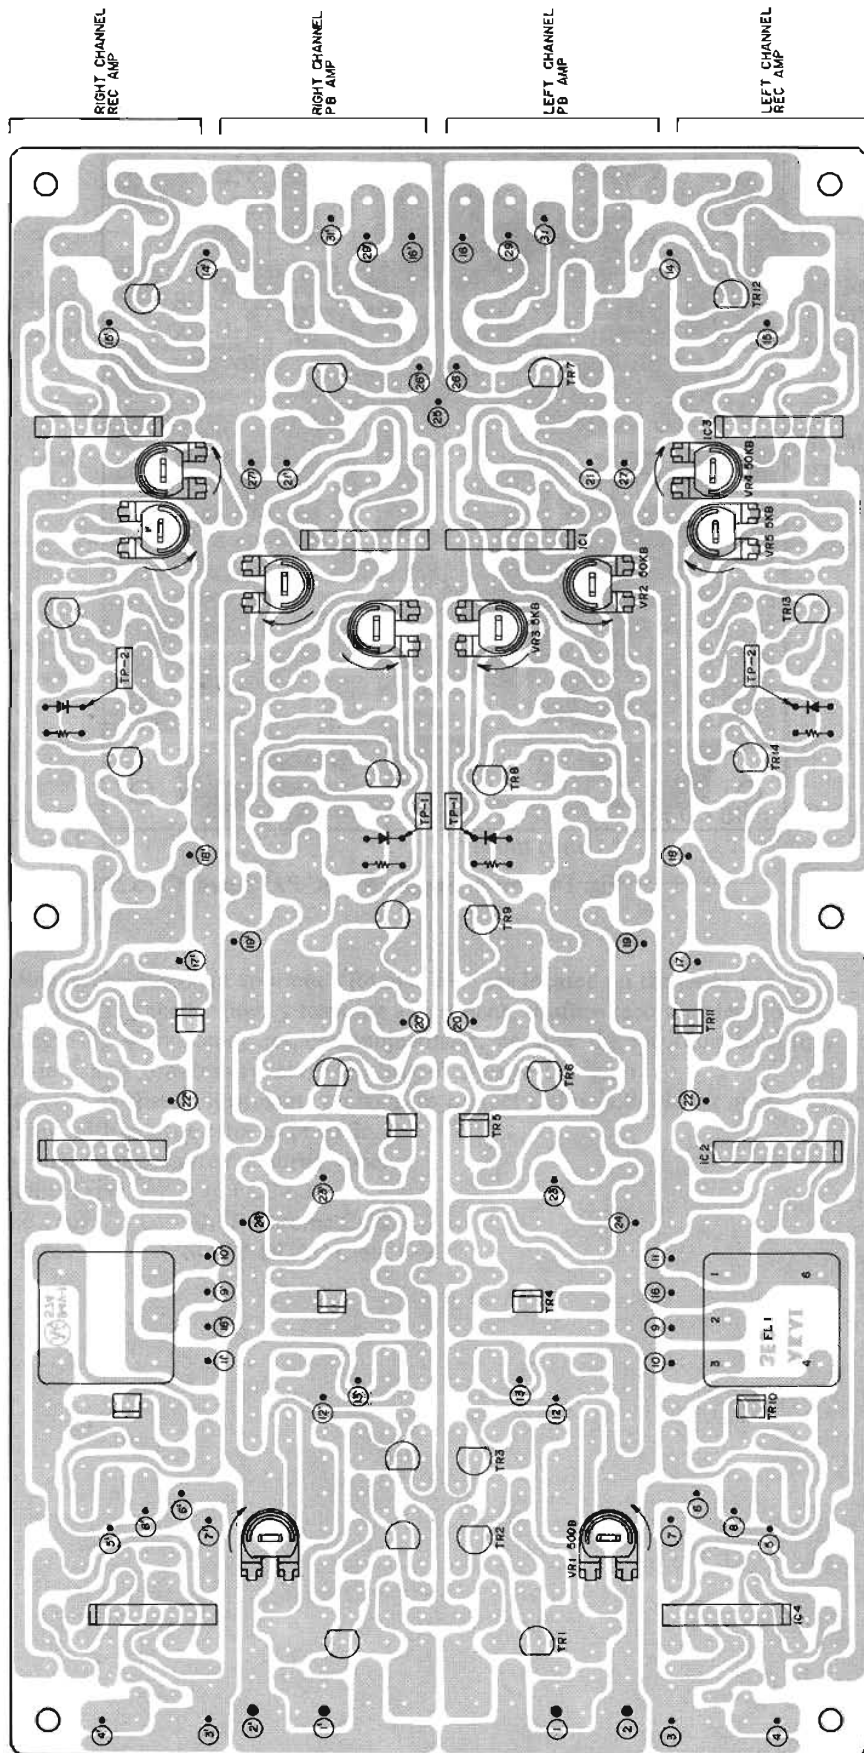
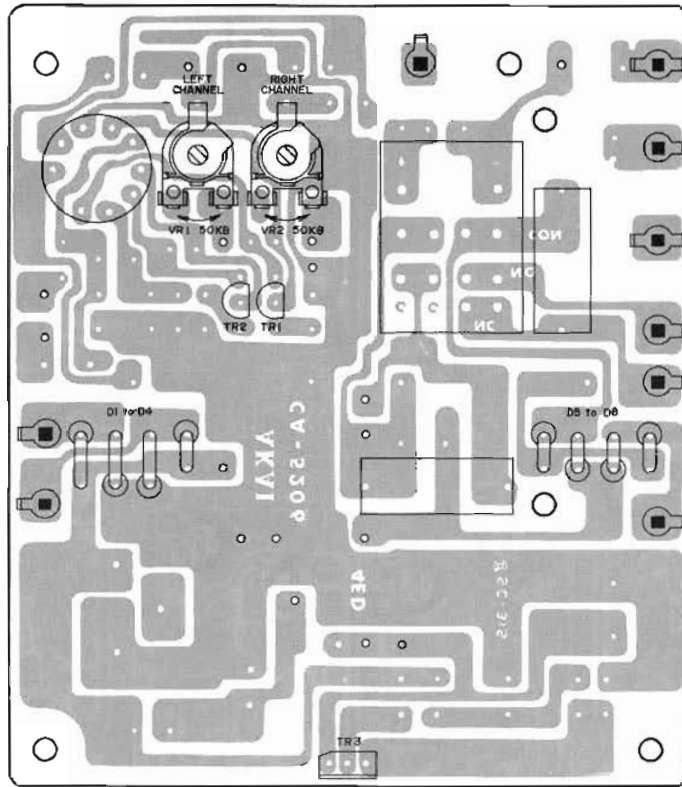

Fig. 13 Pre Amp P.C Board CA-5205
Fig. 14 Power Supply & OSC P.C Board CA-5206
### 1. RECORDING/PLAYBACK AMPLIFIER (See Fig. 13, Fig. 14 and Chart-1)
### ADJUSTMENT (See Fig. 13)
##### Adjustment (See Fig. 13)
- e. With the Dolby Noise Reduction Switch at ON, adjust semi-fixed resistor VR4 (50 k $\Omega$ ) shown in Fig. 13 to obtain a -20 dBm level at center terminal of REC CAL Volume.
- f. Disconnect Test Point TP2 from ground and adjust semi-fixed resistor VR5 (5 k $\Omega$ ) shown in Fig. 13 to obtain a -22 dBm level at center terminal of REC CAL volume.